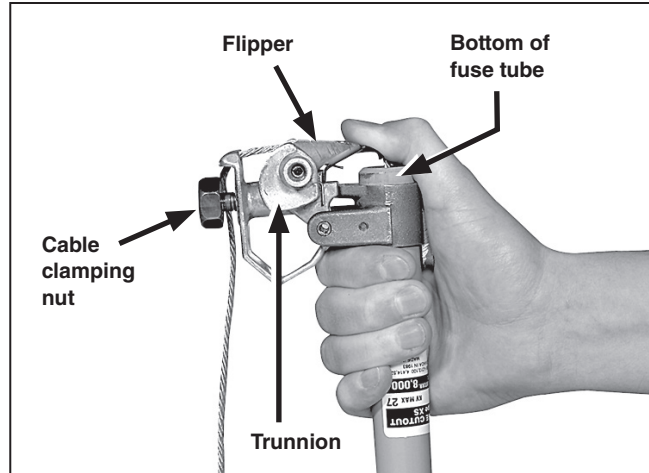

Figure 4. The flipper fully pivoted.
- STEP 3.** Replace the fuse-tube cap on the fuse-tube upper ferrule and tighten the cap securely using a wrench. Loosen the cable clamping nut on the trunnion. See Figure 4.
- STEP 4.** Rotate the flipper fully about its pivot until it reaches its stop (firm resistance is felt). See Figure 4.